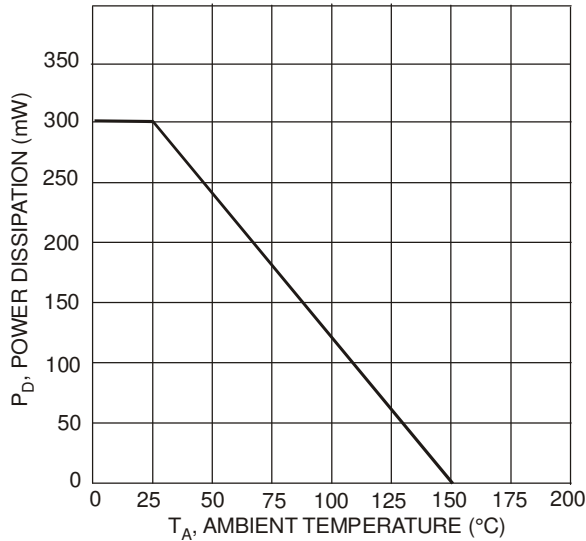

Fig. 1, Max Power Dissipation vs. Ambient Temperature
2. When operated under collector-emitter saturation conditions within the safe operating area defined by the thermal resistance rating (RθJA), power dissipation rating (Pd) and power derating curve (Figure 1).